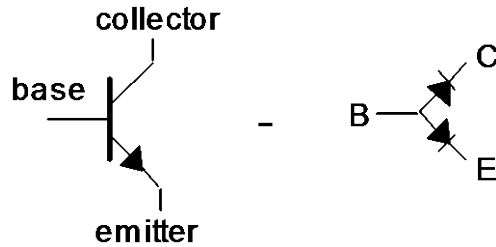

Figure 4-3
* – Use your multimeter’s diode-check feature. It will display the forward bias voltage. Verify that the transistor looks like two diodes, as shown in Figure 4-3.